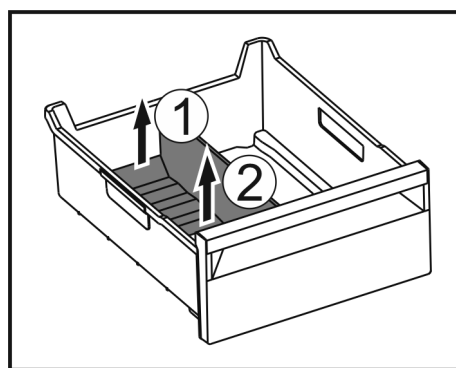

Fig. 237
- Lift the rear part of the ice compartment divider. Fig. 237 (1)
- Remove the ice compartment divider upwards. Fig. 237 (2)